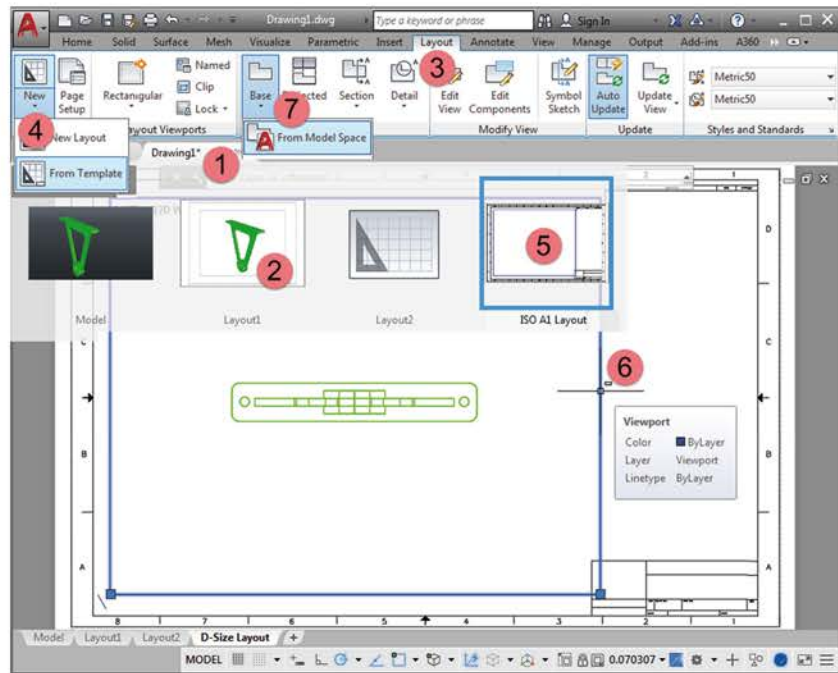

Fig. 12.1 First example – New layout with title block
FIRST EXAMPLE – LAYOUT OF A 3D MODEL (FIG. 12.1 AND 12.2)
1. Hover the mouse cursor over the drawing tab (Fig. 12.1 step 1, do not click!). This opens the thumbnails of Model Space and the layouts that are contained in the drawing file. The number and names of the layouts depend on the template file chosen for this drawing file.
2. Follow the steps as indicated on Fig. 12.1: Click on the thumbnail of a layout.
SECOND EXAMPLE – LAYOUT OF A 2D DRAWING (FIG. 12.1 TO 12.4)
1. Follow steps 1 – 5 of the FIRST EXAMPLE in Fig. 12.1